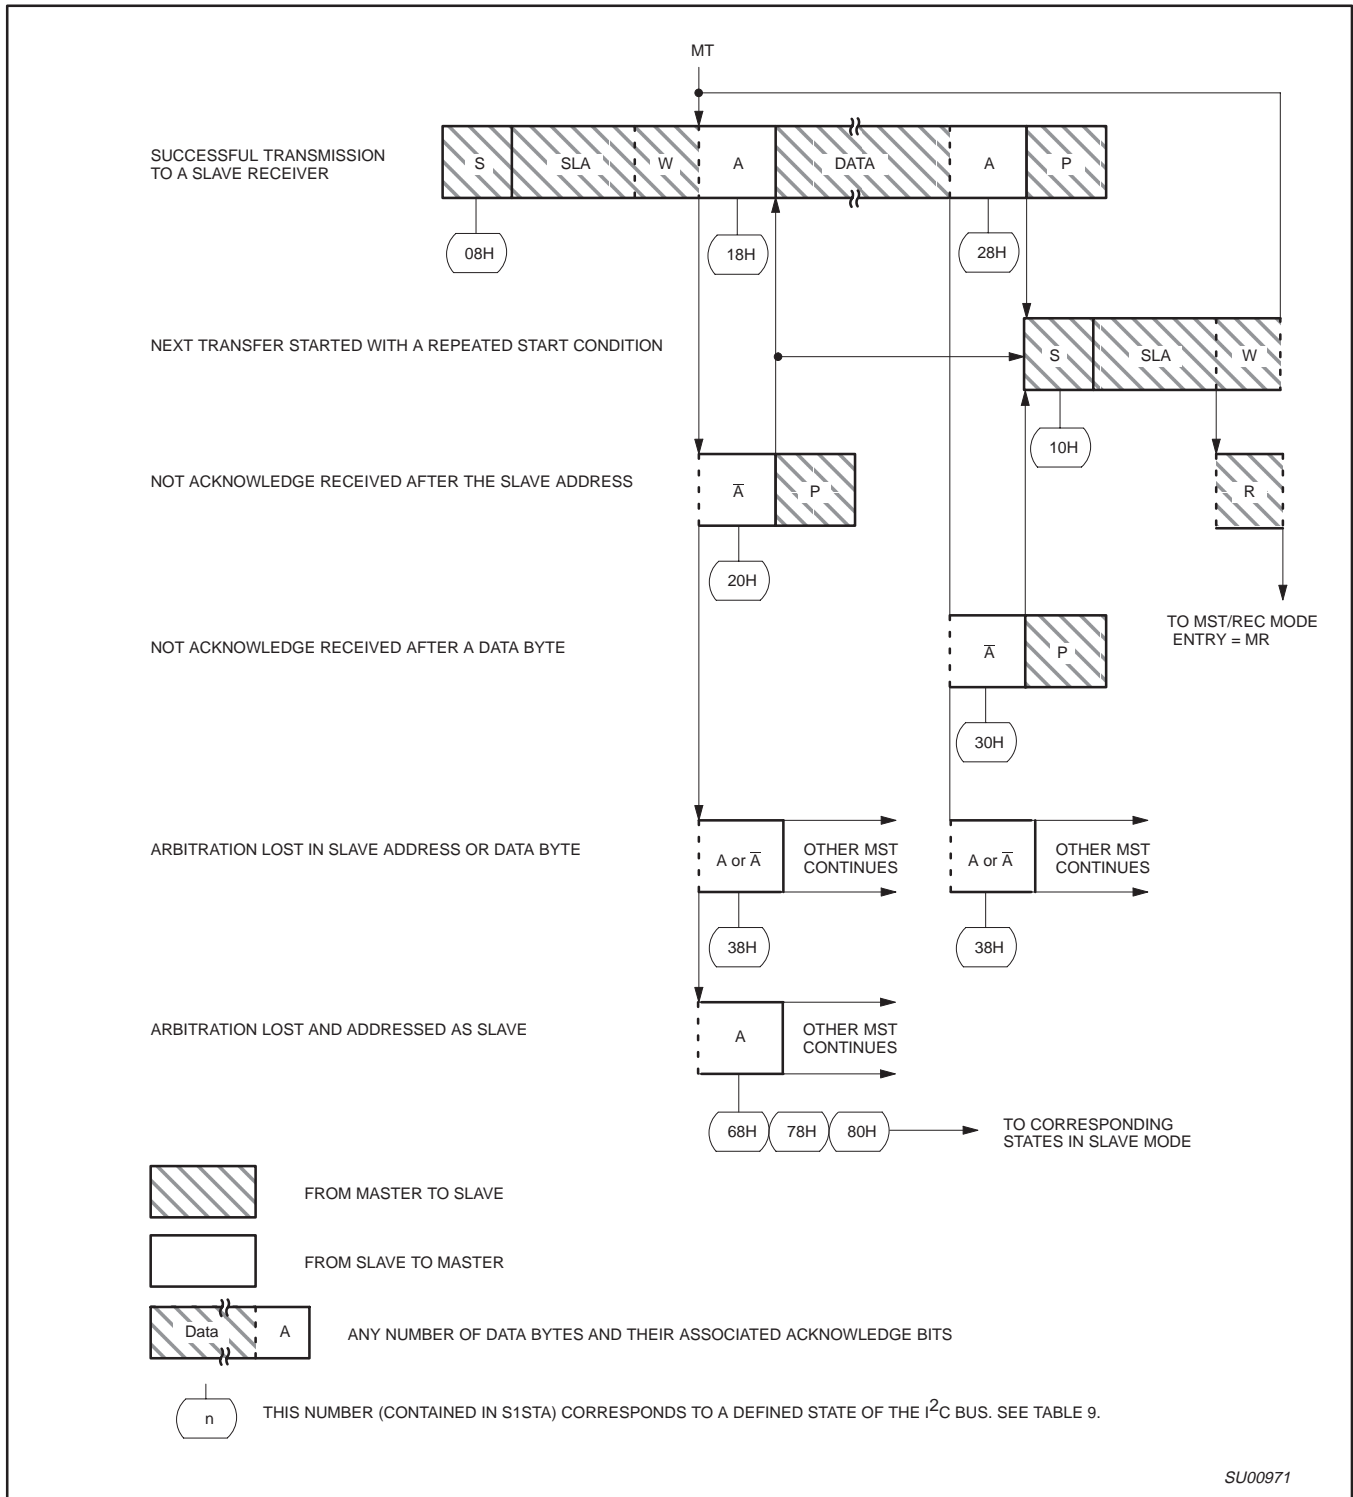

Figure 22. Format and States in the Master Transmitter Mode
Data transfers in each mode of operation are shown in Figures 22–25. These figures contain the following abbreviations:
**Master Transmitter Mode:** In the master transmitter mode, a number of data bytes are transmitted to a slave receiver (see Figure 22). Before the master transmitter mode can be entered, S1CON must be initialized as follows: